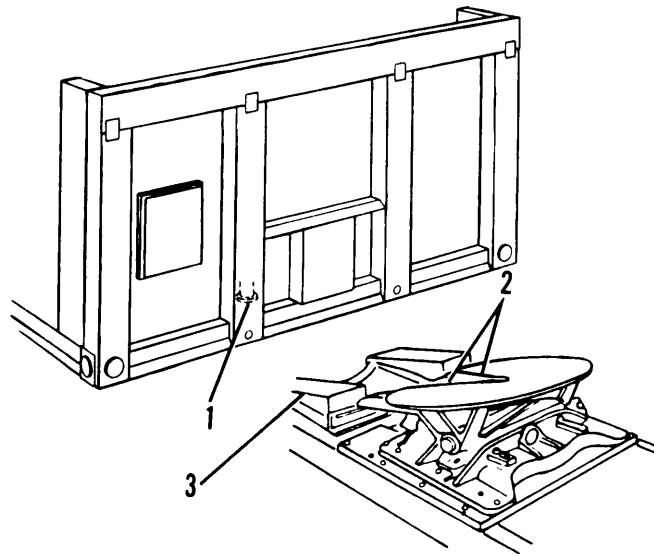

Figure 2-14. Coupling Semitrailer to Towing Vehicle
- (1) Align towing vehicle with semitrailer.
- (2) Slowly back towing vehicle into position. Be sure kingpin (1, fig. 2-14) is in line with fifth wheel coupler jaws (2).
- (3) Stop the towing vehicle just before the kingpin plate of the semitrailer starts to ride up the approach ramps (3) of the towing vehicle.